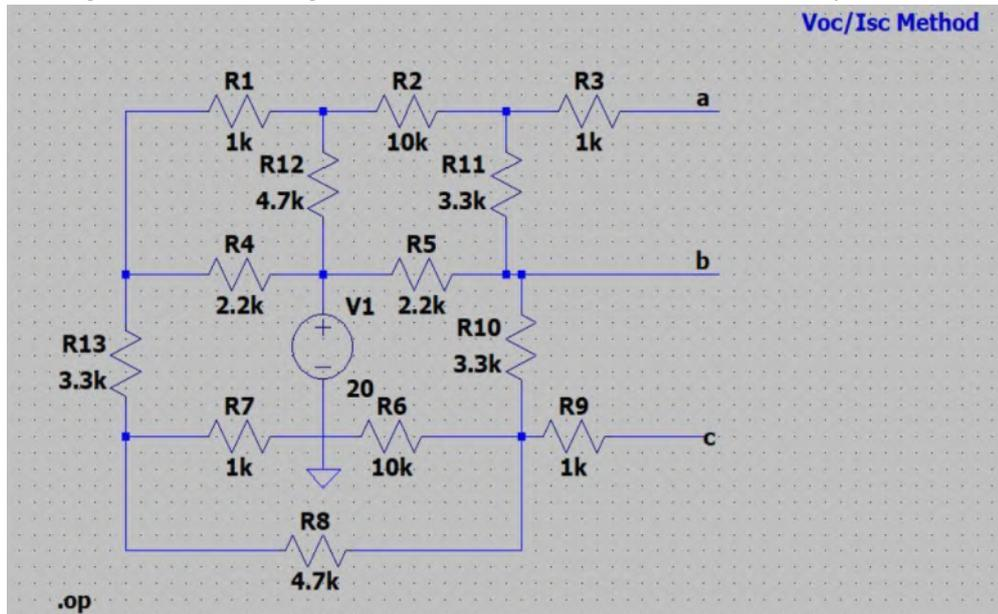

Figure: 9
- 1) Construct the circuit as shown in figure 9 in a new schematic.